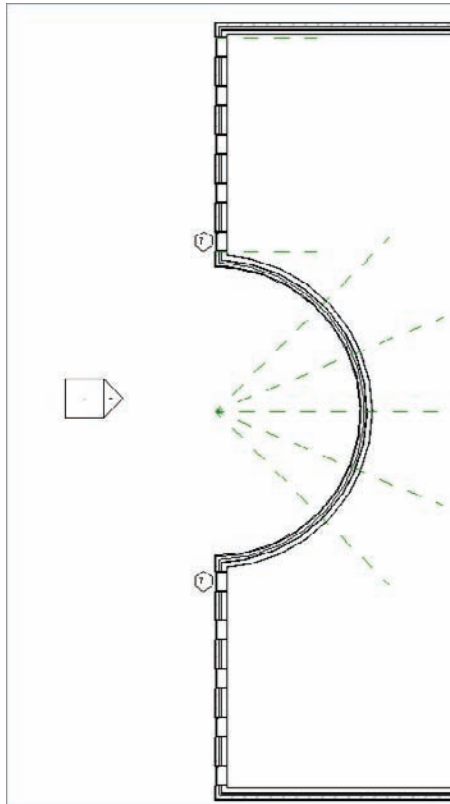

FIGURE 4.27 The finished west wall
5. Zoom out to check the placement of the windows. Do not assume that everything went as planned. Your Level 1 floor plan should resemble Figure 4.27.